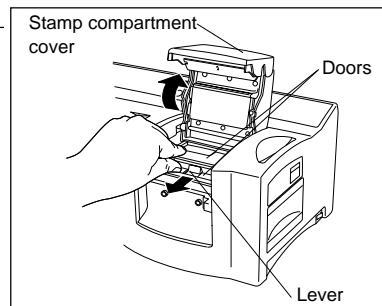

figure 1
- ❶ After the data is printed onto the draft sheet, which is then fed over the xenon lamp unit, the message "INSTALL STAMP !" appears in the LCD of the SC-2000.
- ❷ Lift open the stamp compartment cover, slowly pull the lever toward you to open the doors in the stamp compartment, and then check that the printed draft sheet has stopped over the xenon lamp unit (see figure 1).